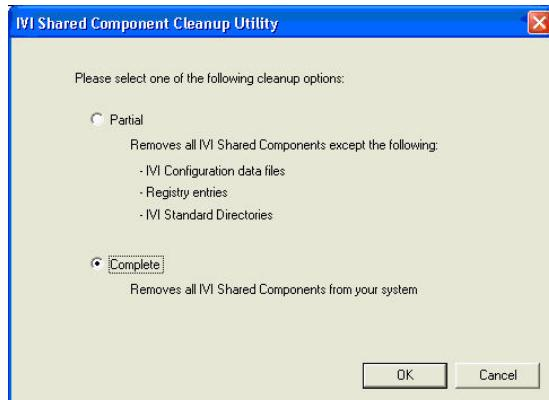

Figure 8 Uninstall all of the IVI Shared Component files
- 3 Select the **Complete - Removes all IVI Shared Components from your system** radio button as shown in Figure 8 below.